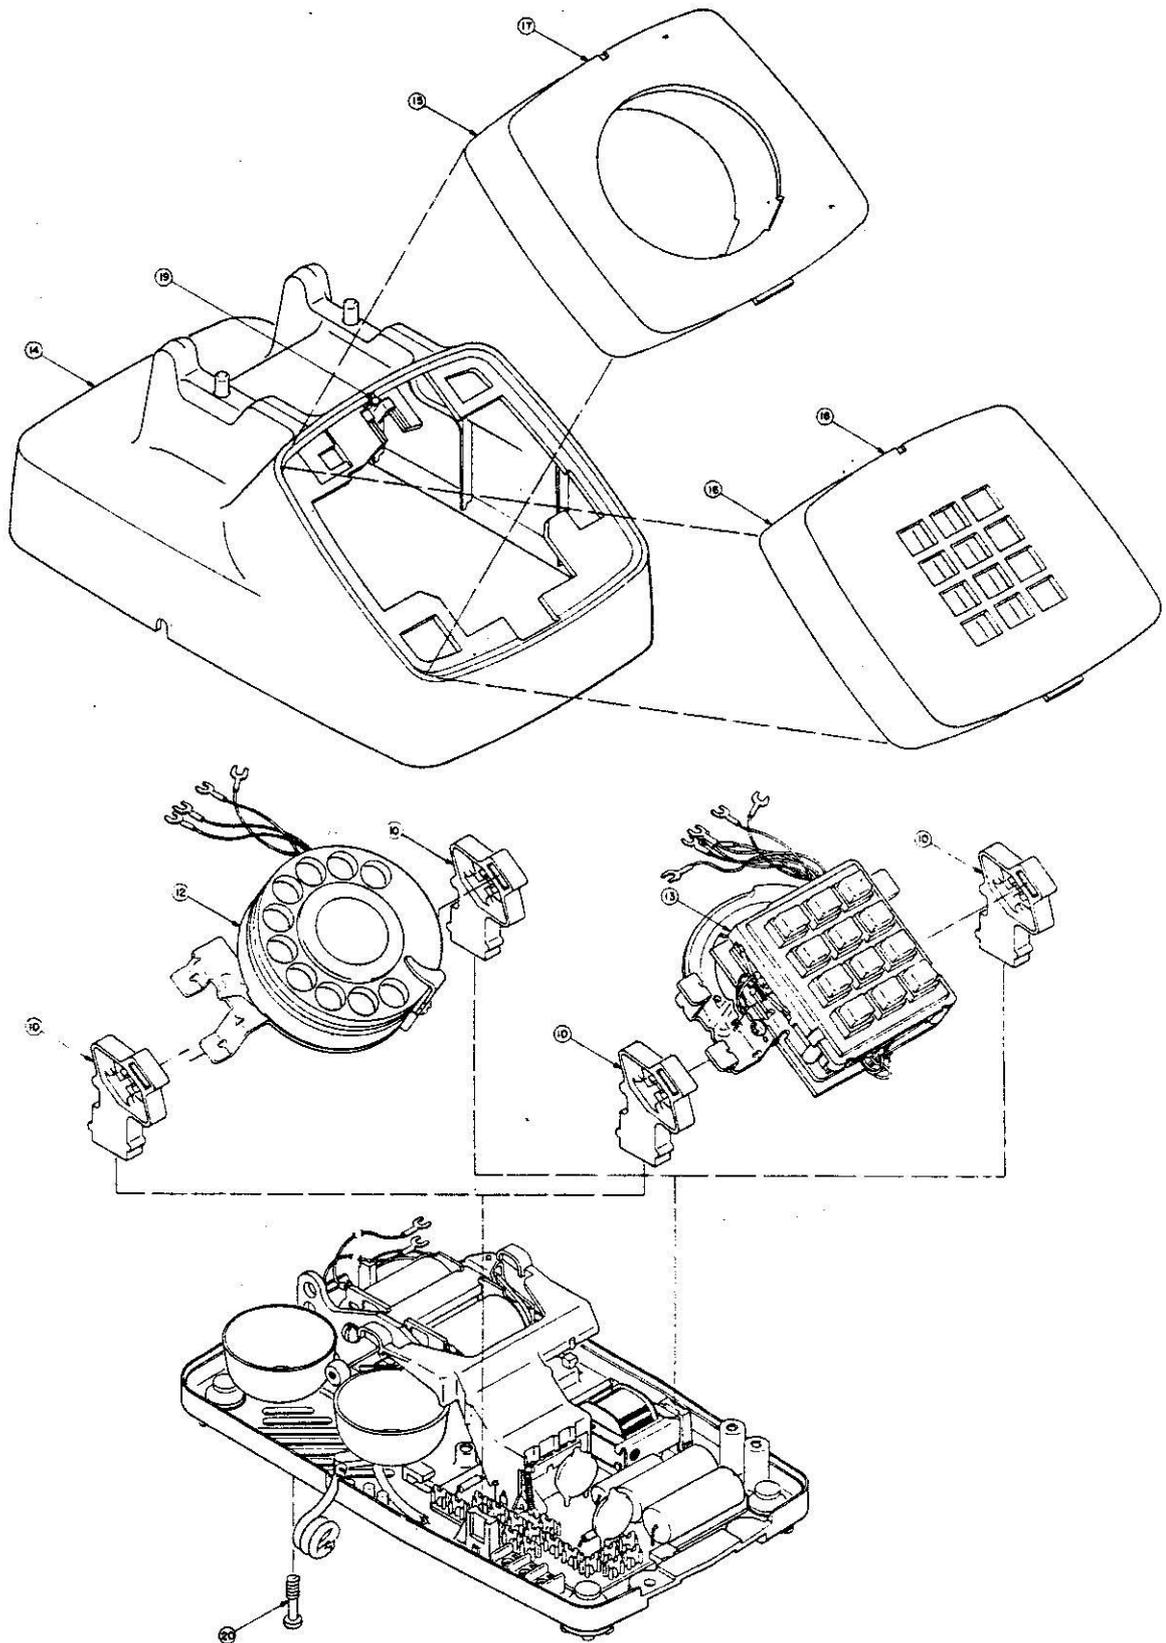

Figure 1. Exploded View of Telephone.
3.01 The component parts of the telephone are listed in Table 2 and are identified by corresponding item numbers in Figures 1 and 2. To determine the part number for any component of the telephone, proceed as follows:
- (a) Locate the component in Figure 1 or 2.